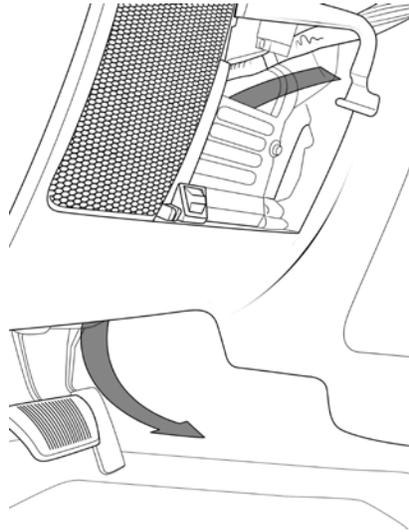

Figure 50
- e. Route long side of module wiring harness through instrument panel (fig 50)